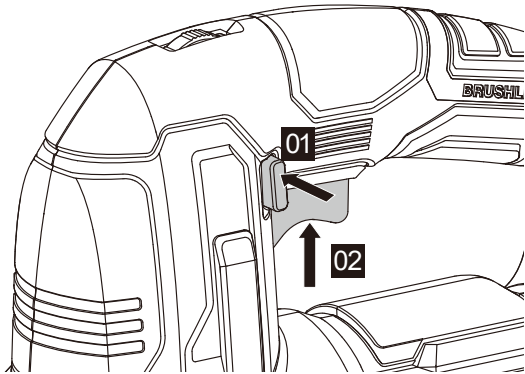

Figure 8
3. SWITCHING ON AND OFF (SEE FIG. 8)